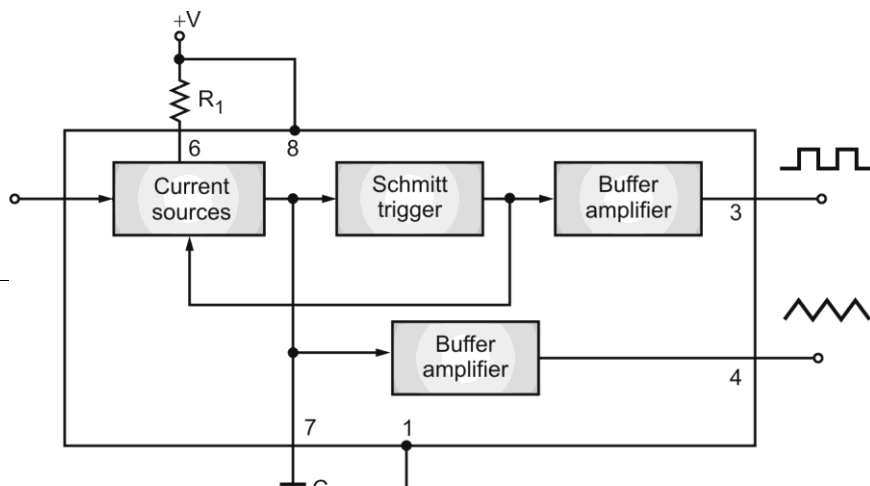

Fig. 5.4.1 : Block diagram of VCO IC 566
- The block diagram of VCO IC 566 is shown in Fig. 5.4.1.